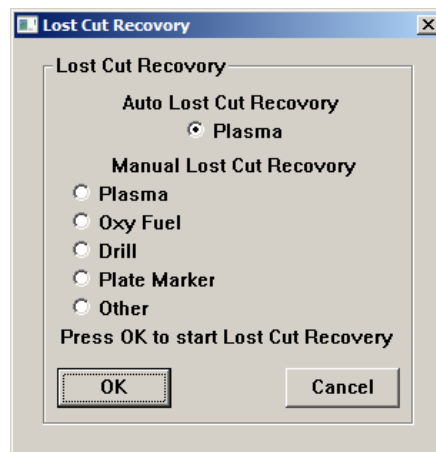

Figure 23 - Lost Cut Recovery Dialog
4. Press the **Plasma** button under *Manual Lost Cut Recovery* (See Figure 23) causing the following dialog to appear
4. Press the **Oxy Fuel** button under *Manual Lost Cut Recovery* (See Figure 23) causing the following dialog to appear
4. Press the **Drill** button under *Manual Lost Cut Recovery* (See Figure 23) causing the following dialog to appear
4. Press the **Plate Marker** button under *Manual Lost Cut Recovery* (See Figure 23) causing the following dialog to appear